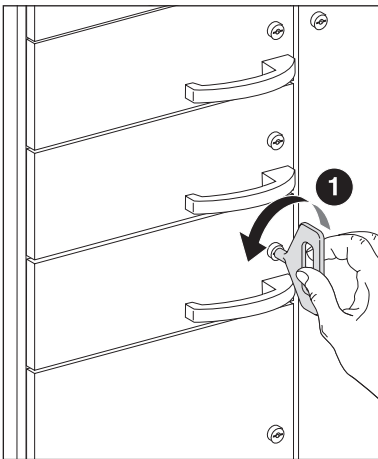

Fig. 10a
- Remove the doors (see Fig. 10a to 10e):
Fig. 10a and 10b: Open the door.